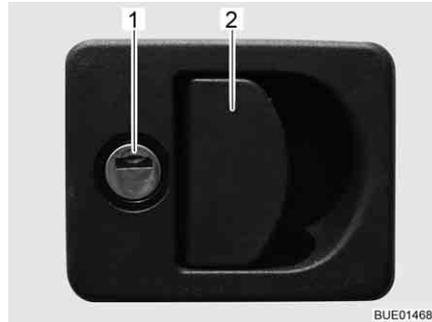

Fig. 47 Flap lock with recessed handle
- Insert key into locking cylinder (Fig. 47,1) and turn a quarter turn. The flap lock is unlatched.
- Pull on the lock handle (Fig. 47,2). The external flap is open.